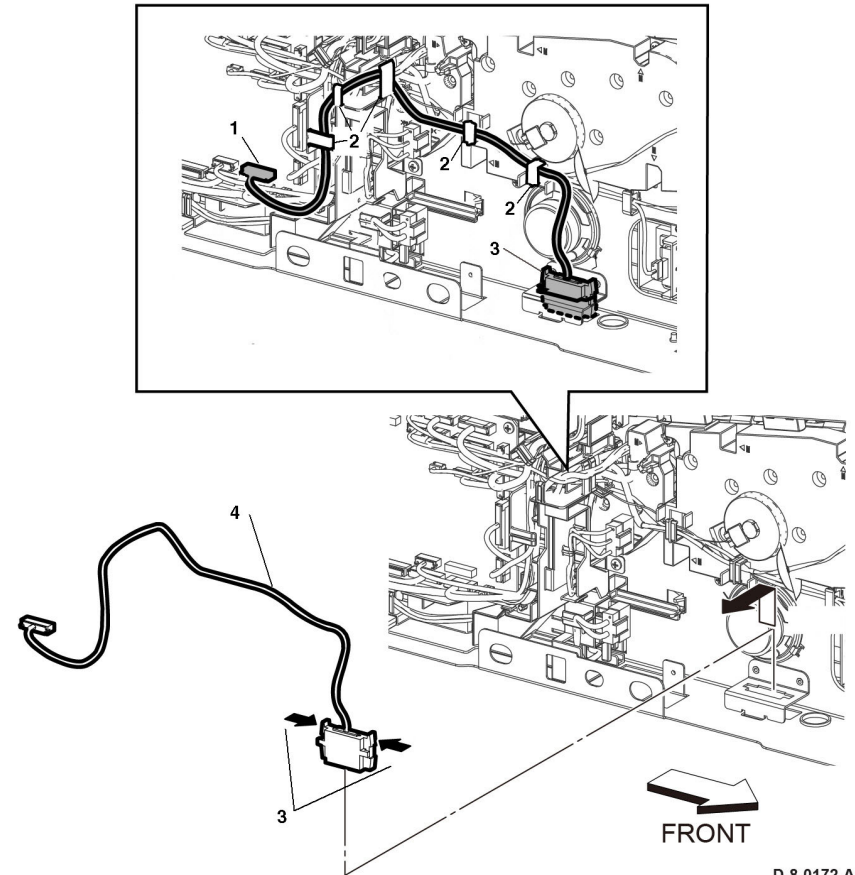

Figure 1 OPF harness assembly
3. Remove the OPF-CF harness assembly, Figure 1: